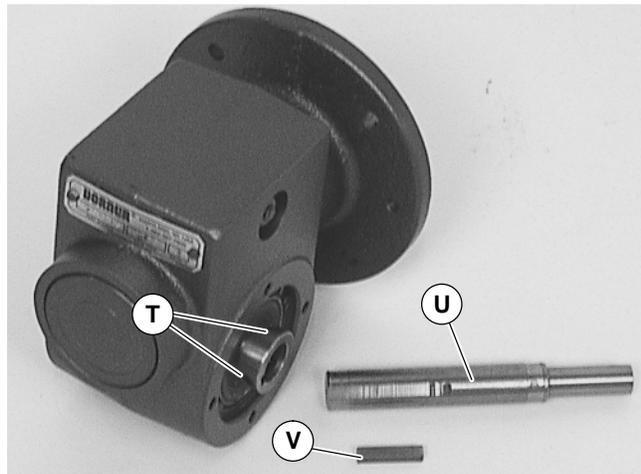

Figure 14
- Insert the new shaft with adhesive (U Figure 14) and key (V) into new gear reducer. Tighten set screws to 33 in-lb (3.7 Nm).